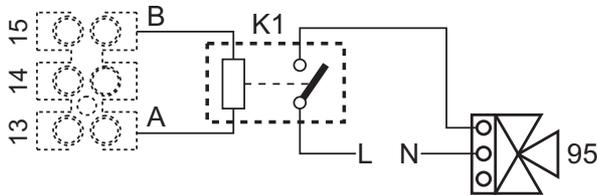
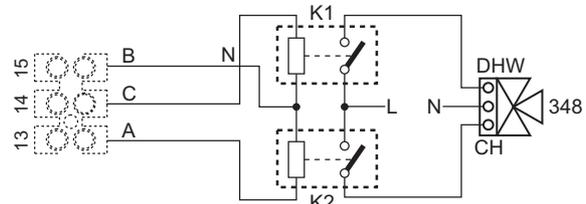
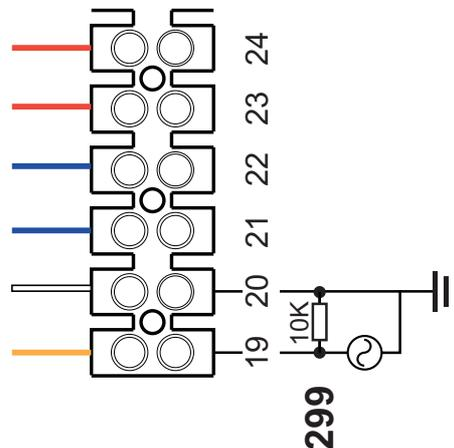
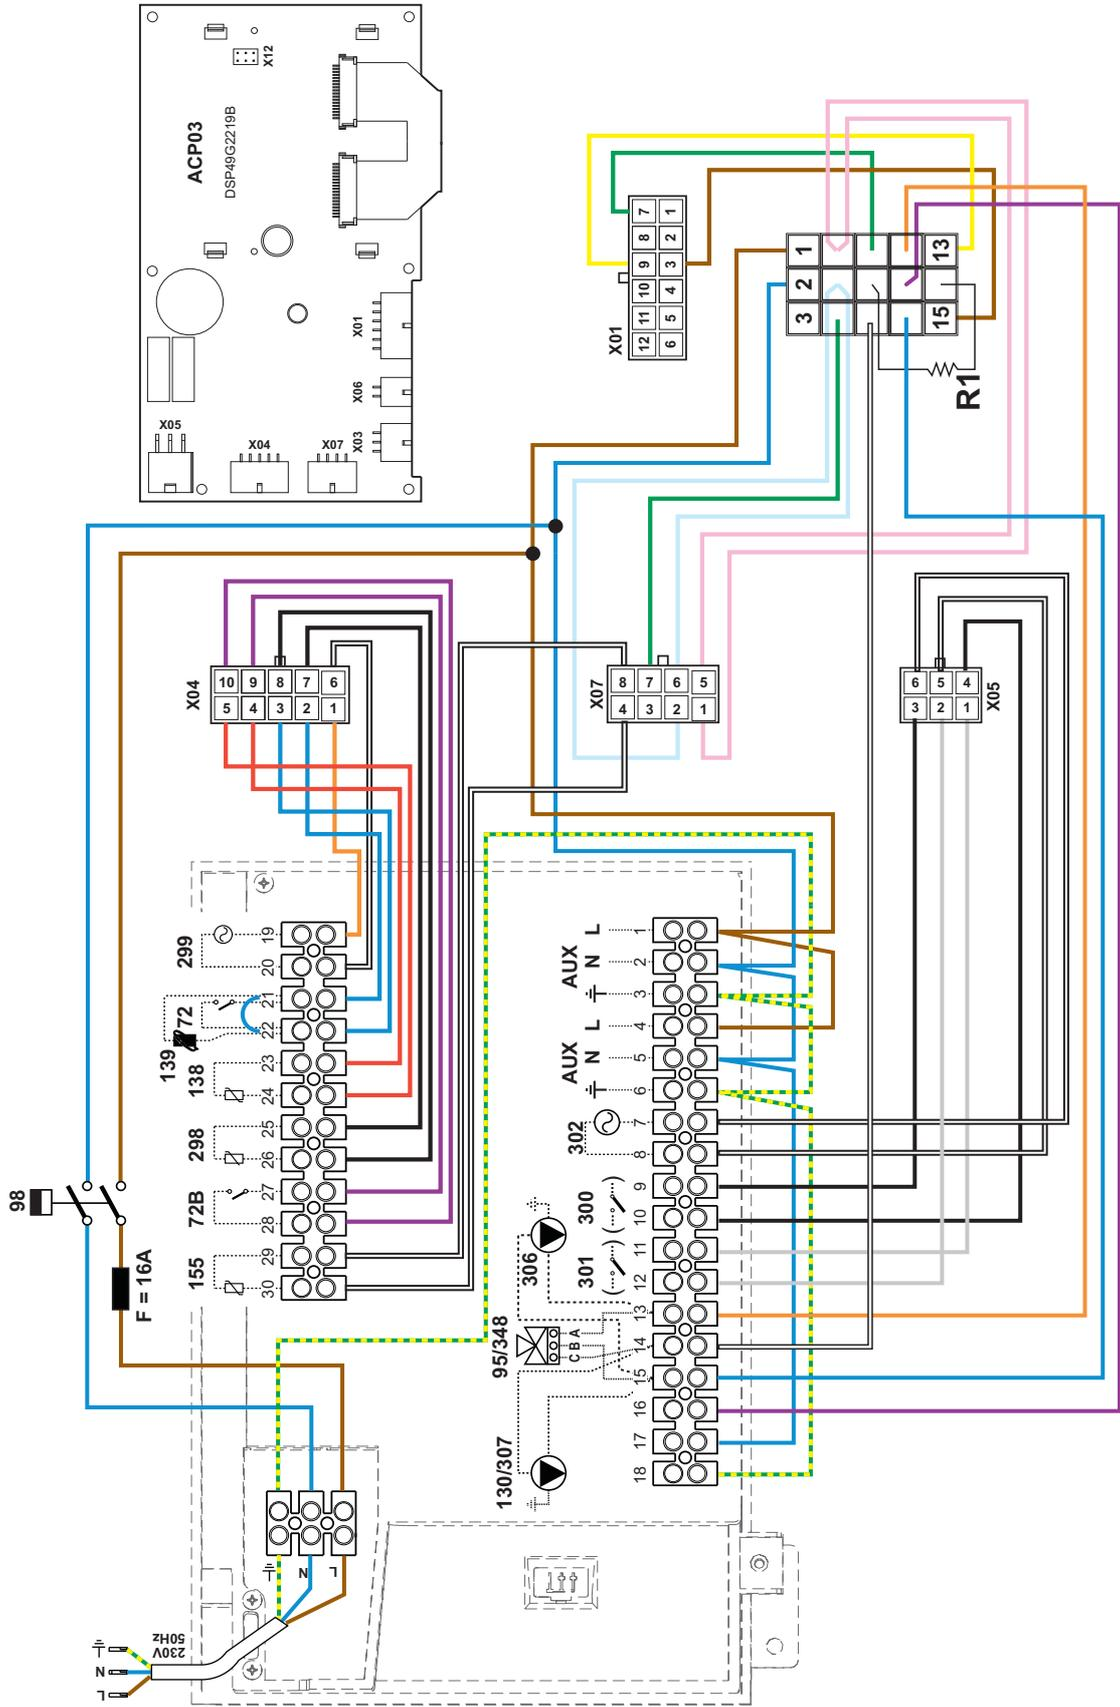

fig. 124- Connection of the 3-way valve with 2 wires
fig. 125- Connection of the 3-way valve with 3 wires
fig. 126-
fig. 127- Display wiring diagram
**ATTENTION:** To connect the 3-way valve (terminals 13 - 14 - 15), refer to the diagrams of fig. 124 and fig. 125.
**ATTENTION:** In case of instability in the reading of the 0-10V signal by the electronic controller, it is advisable to connect the signal reference to ground, and insert a 10K resistor in parallel, as per fig. 126.
**ATTENTION:** Terminals 16 and 17 (see fig. 127) must not be used.
### Legend of figures fig. 124, fig. 125, fig. 126 and fig. 127